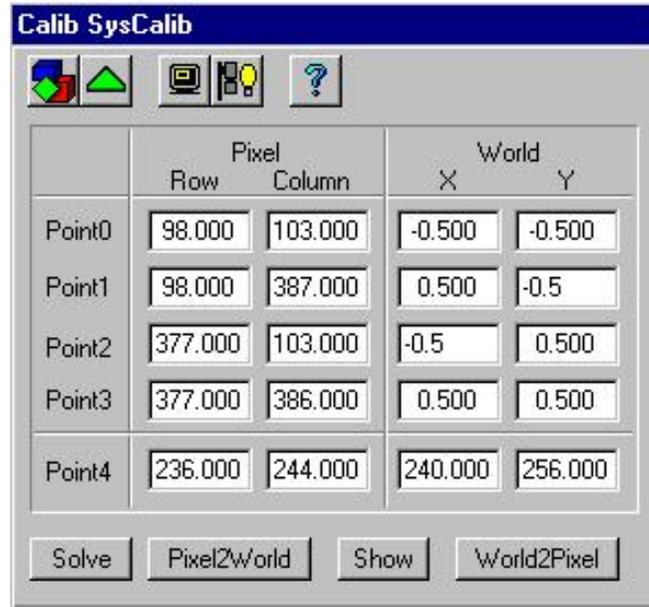

Figure 6-77—World values for X and Y
- On the Calib SysCalib window, set the **World X** and **Y** values as shown in *Figure 6-77*.